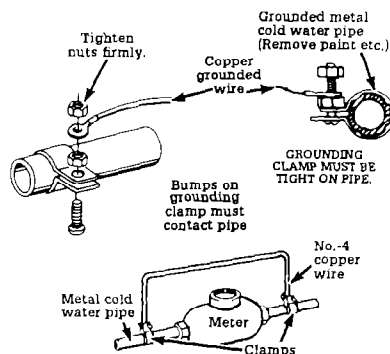

Figure 3
5. A separate copper grounding wire (No. 10 minimum) **MUST** be connected to a grounded metal cold water pipe by means of a clamp and then to the external grounding connector screw. **Do Not ground to a gas supply pipe or hot water pipe.** Do Not connect to electrical supply until appliance is permanently grounded. (See Figure 3.)